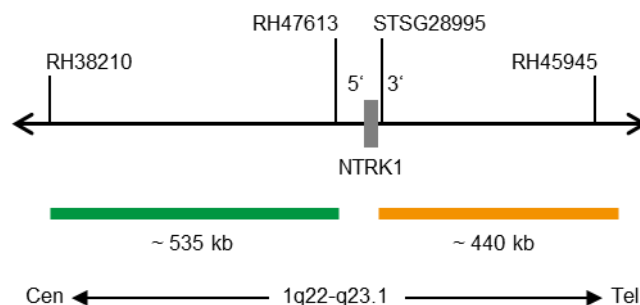
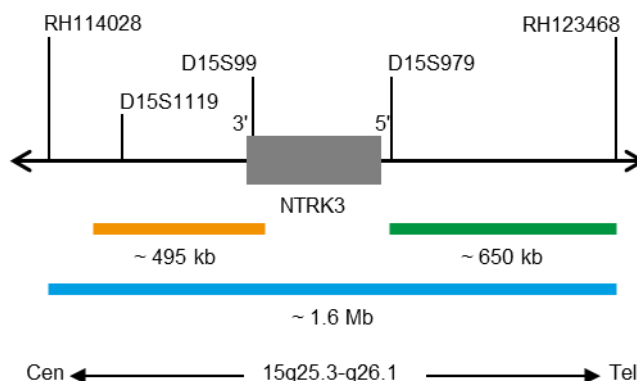

Fig. 1: NTRK1 Probe map (not to scale)
Fig. 2: NTRK3 Probe map (not to scale)
- ZyGreen (excitation 503 nm/emission 528 nm) labeled polynucleotides (~10.0 ng/μl), which target sequences mapping in 1q22-q23.1* (chr1:156,245,849-156,781,745) proximal to the NTRK1 breakpoint region and in 15q25.3-q26.1* (chr15:88,825,346-89,475,889) distal to the NTRK3 breakpoint region (see Fig. 1 & Fig. 2).
- ZyOrange (excitation 547 nm/emission 572 nm) labeled polynucleotides (~2.5 ng/μl), which target sequences mapping in 1q23.1* (chr1:156,854,527-157,296,918) distal to the NTRK1 breakpoint region and in 15q25.3* (chr15:87,976,717-88,471,002) proximal to the NTRK3 breakpoint region (see Fig. 1 & Fig. 2).
- ZyBlue (excitation 418 nm/emission 467 nm) labeled polynucleotides, (~70.0 ng/μl), which target sequences mapping in 15q25.3-q26.1* (chr15:87,845,459-89,475,889) harboring the NTRK3 gene region (see Fig. 2.)